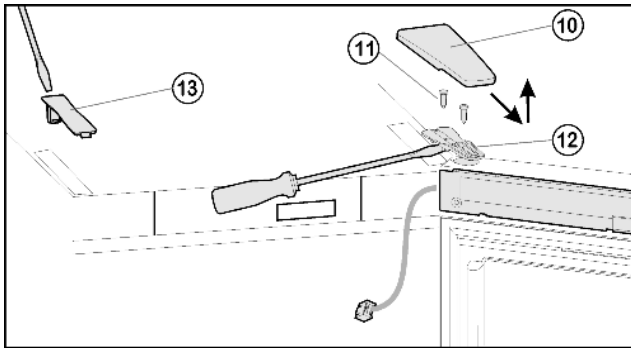
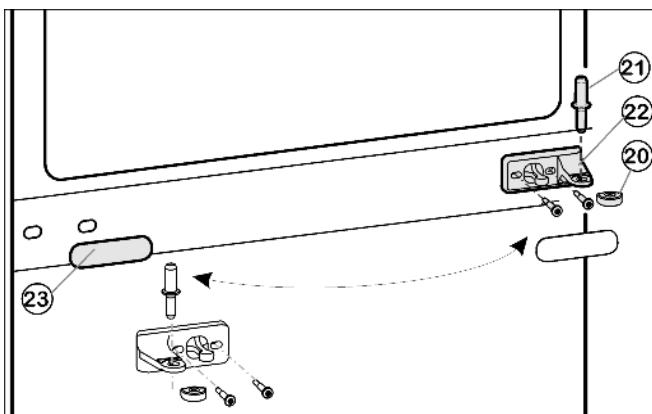
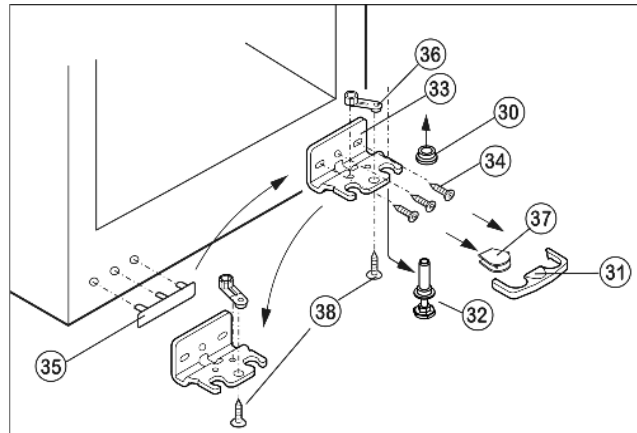

Fig. 5
Fig. 6
Fig. 7
- ▶ Pull off the cover Fig. 5 (10) forwards and upwards.
- ▶ Lift off the cover Fig. 5 (13).
- ▶ Undo the screws Fig. 5 (11) all the way.
- ▶ Lift and remove the door complete with turn hinge Fig. 5 (12) and cable. For release, possibly use a flat-blade screwdriver to apply lever action under the turn hinge.
- ▶ Draw the middle bearing pin Fig. 6 (21) out of the middle turn hinge Fig. 6 (22) and lower door.
- ▶ Remove the plastic cap Fig. 6 (20).
- ▶ Detach the middle turn hinge Fig. 6 (22).
- ▶ Carefully detach the cover panel Fig. 6 (23).
- ▶ Turn the middle turn hinge Fig. 6 (22) through 180° and screw it firmly into place on the new hinge side (with 4 Nm).
- ▶ Turn the cover panel Fig. 6 (23) through 180° and snap it into place again on the new handle side.
- ▶ Draw the safety lock Fig. 7 (31) forwards for removal.
- ▶ Remove the cover Fig. 7 (37).*
- ▶ Fully retract the adjustable-height foot Fig. 7 (32).
- ▶ Pull out the bearing pin Fig. 7 (32) downwards and forwards. In so doing, pay attention to the hinge bush Fig. 7 (30).
- ▶ Unscrew the turn hinge Fig. 7 (33) (3 Torx 25) Fig. 7 (34).
- ▶ Unscrew the bearing part Fig. 7 (36) (1 Torx 25), Fig. 7 (38), transfer it to the opposite hole in the turn hinge and screw it down again.
- ▶ Carefully lift off and transfer the cover Fig. 7 (35) on the handle side.
- ▶ Screw the turn hinge Fig. 7 (33) firmly into place on the new hinge side, possibly using a cordless screwdriver (with 4 Nm).
- ▶ Place the cover Fig. 7 (37) on the opposite side.*
- ▶ The safety lock (31) has to engage with the turn hinge at the side so that the bearing pin and therefore the door are secured.
- ▶ Snap the safety lock (31) onto the turn hinge again.
- ▶ Put on the hinge bush Fig. 7 (30).
- ▶ Place the door from above onto the lower bearing pin Fig. 7 (32).
- ▶ Place the plastic cap Fig. 6 (20) back onto the middle turn hinge Fig. 6 (22).
- ▶ Insert middle bearing pin Fig. 6 (21) through middle turn hinge Fig. 6 (22) into the lower door.
- ▶ Place the upper door on the middle bearing pin Fig. 6 (21), close the door and attach the upper turn hinge Fig. 5 (12) so that it engages with the upper side of the appliance.
- ▶ Screw the turn hinge Fig. 5 (12) firmly into place (with 4 Nm). Possibly make preliminary holes with a bradawl or use a cordless screwdriver.
- ▶ Snap on the cover Fig. 5 (10) and cover Fig. 5 (13).
- ▶ If necessary, align the door to the appliance housing by way of the two oblong holes in the lower turn hinge Fig. 7 (33) and middle turn hinge Fig. 6 (22). To do so, unscrew the middle screw in the lower turn hinge Fig. 7 (33).